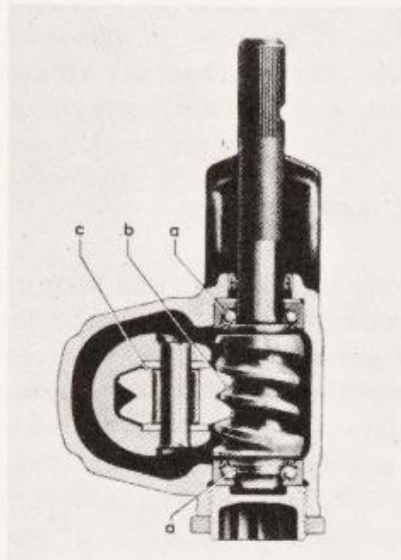

Fig. G-23. Maximum clearances: a—.00 in. b—1 in. measured at steering wheel turned 90 deg. to each side. c—Not more than .0016 in.
Three adjustments are required on roller steering gears for proper operation, Fig. G-23.
- 2 - With gear disassembled, axial play of roller, Fig. G-23, must not exceed .0016 in. If an .02 in. feeler gauge can be inserted between roller and washer, replace steering roller shaft.